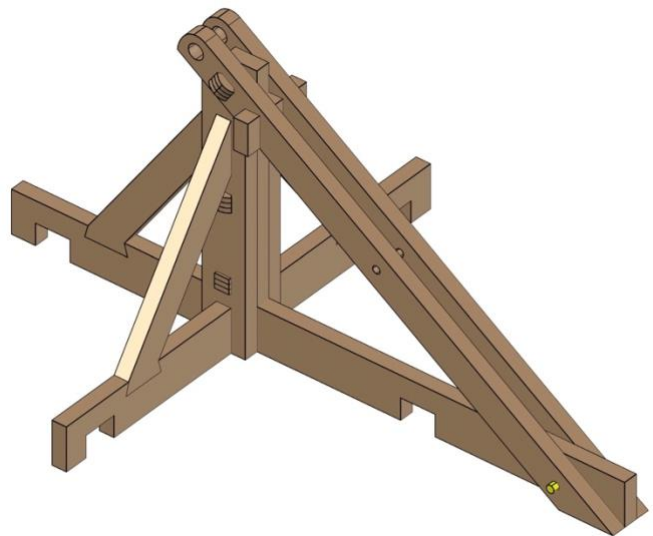

Fig. 52
- *Fig. 52* shows the completed process.